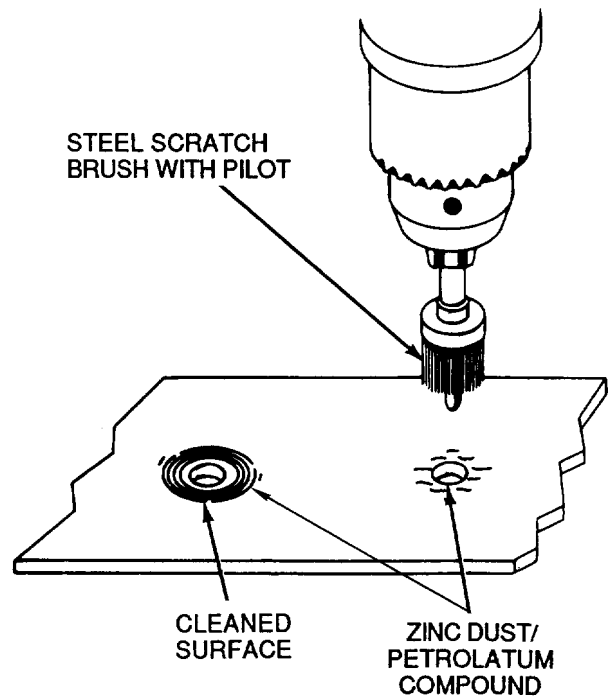

Figure 1. Unplated Aluminum Alloy Bus Bar Preparation
b. Non-soluble films may be removed by using a fine rotary stainless steel wire brush with pilot (Figure 1). They may also be removed by sanding or polishing with very fine garnet paper (silicon carbide or aluminum oxide, 320 grit or finer) or fiberglass eraser, using caution so as to not remove excessive metal.